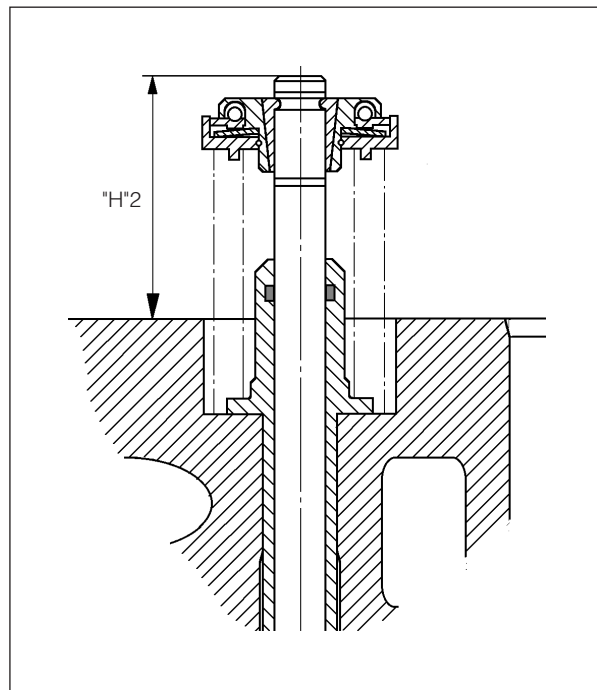

Fig 3.
4) After assembling the valves, check - on account of the valve motion - that distance "H"2 between the upper edge of the cylinder head and the upper edge of the valve spindle, *see fig 3*, does not exceed the maximum value, *see page 500.35*.